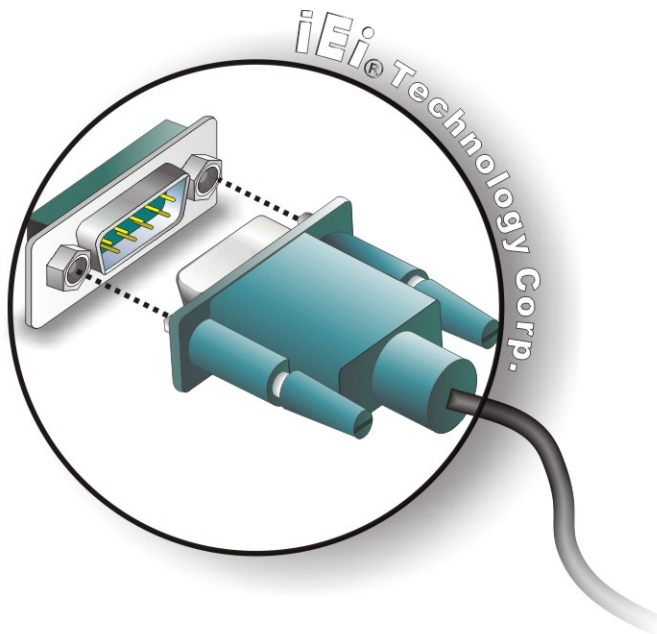

Figure 5-23: Serial Device Connector
Step 2: Insert the serial connector. Insert the DB-9 connector of a serial device into the DB-9 connector on the external peripheral interface. See Figure 5-23.